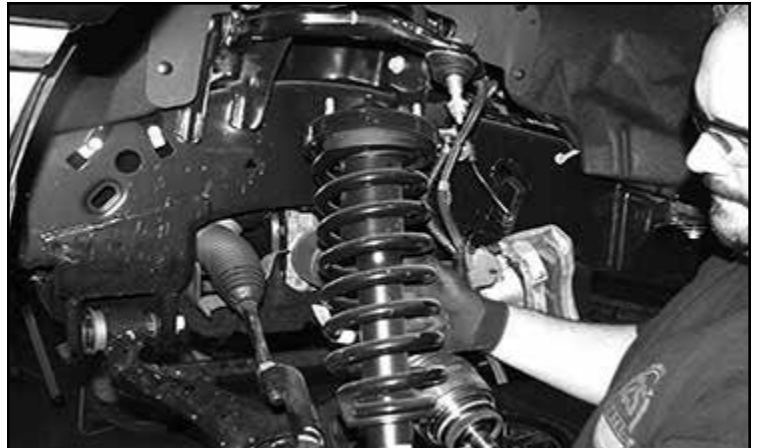

FIGURE 10 - STEP 11
11. Locate the three upper coilover nuts and remove. Save the hardware. Remove the shock assembly from the vehicle and mark "Driver" for assembly to install later with Fabtech shock extensions. **NOTE: If installing Dirt Logic coilovers the factory coilover and hardware will not be re-used. SEE FIGURE 10**